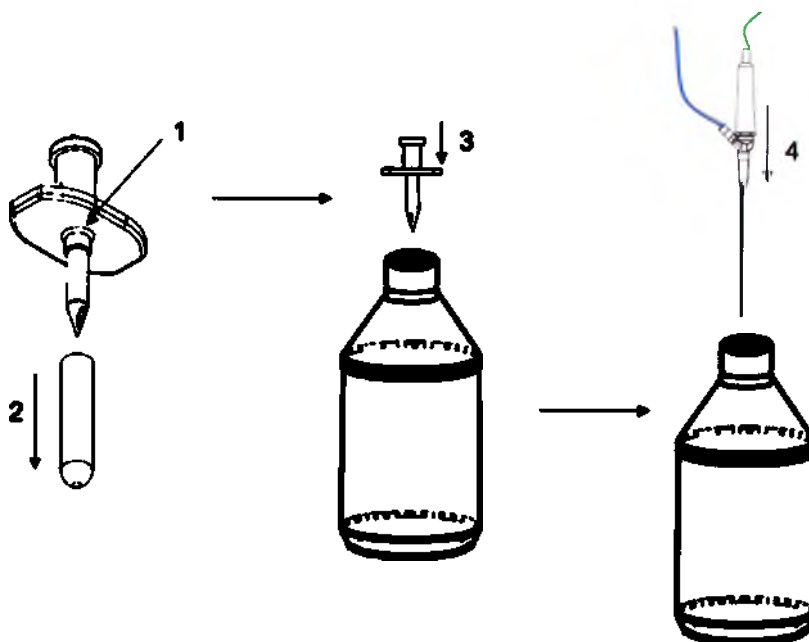

Figure 4.5. AFI Setup instructions.
- n. Spike and hang the Balanced Salt Solution bottle on the automated I/V pole or the Zero Level hanger if using AFI. Squeeze and release the drip chamber until it is half filled with solution. (For AFI setup, use the spiking tool provided to puncture the rubber stopper on the bottle before inserting the metal cannula into the bottle.) (Circulating Nurse) See Figure 4.5.